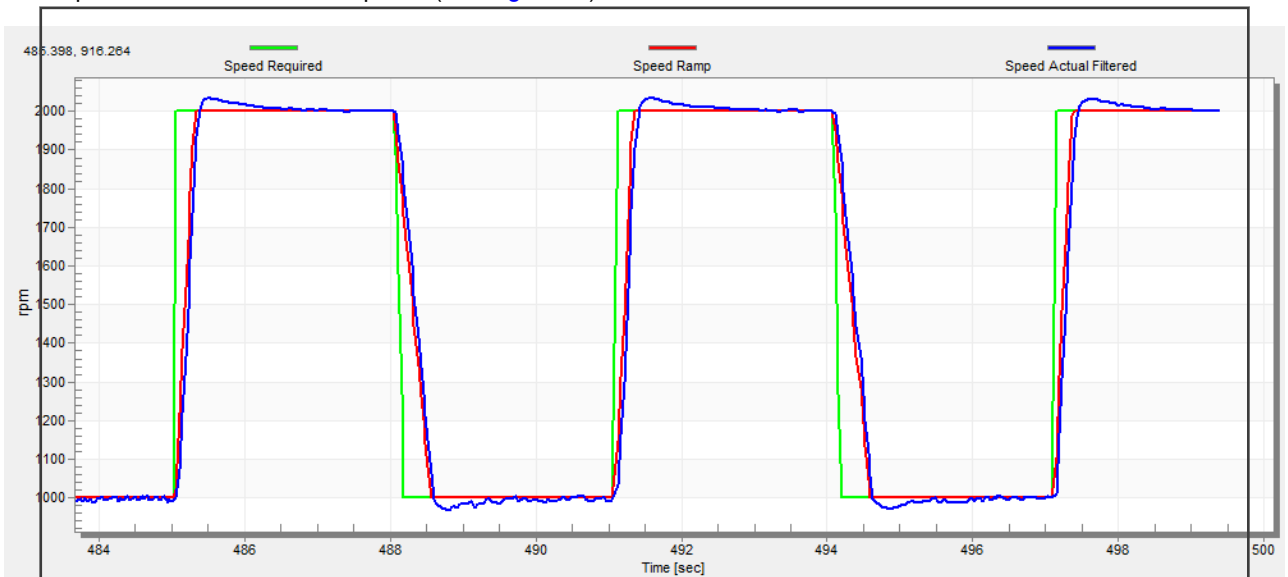

Figure 34. Speed Controller Response—speed loop response with a small overshoot
- c. The speed loop response has a small overshoot, and the “Speed Actual Filtered” settling time is sufficient. Such response can be considered optimal (see Figure 34).